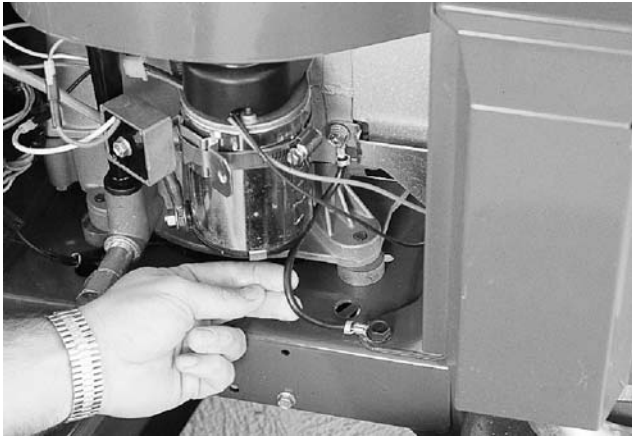

Figure 3-22.
9. The engine may have a ground wire located at the base of the engine, attached to the frame. It must be firmly attached to both the engine and the tractor frame. See Figure 3-22.